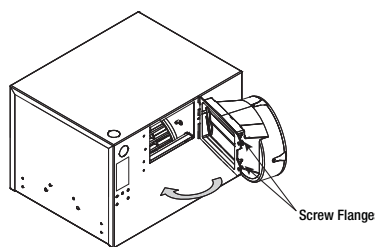

Figure 5 — Rotate Duct Adapter
2. Rotate duct connector until the screw flanges meet the housing, shown in Figure 5.